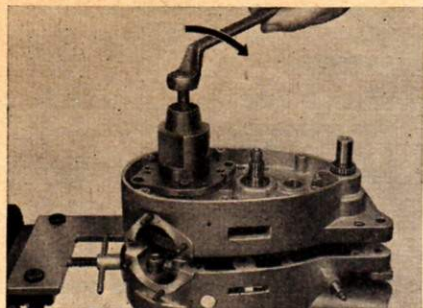

Fig. 35 Removing right hand half-member from crankcase
4. By screwing in the pressure bolt the right hand half-member and the bearing are withdrawn from the crankshaft pin as fig. 35 shows. The pedal shaft must remain in the left hand half-member of the crankcase.